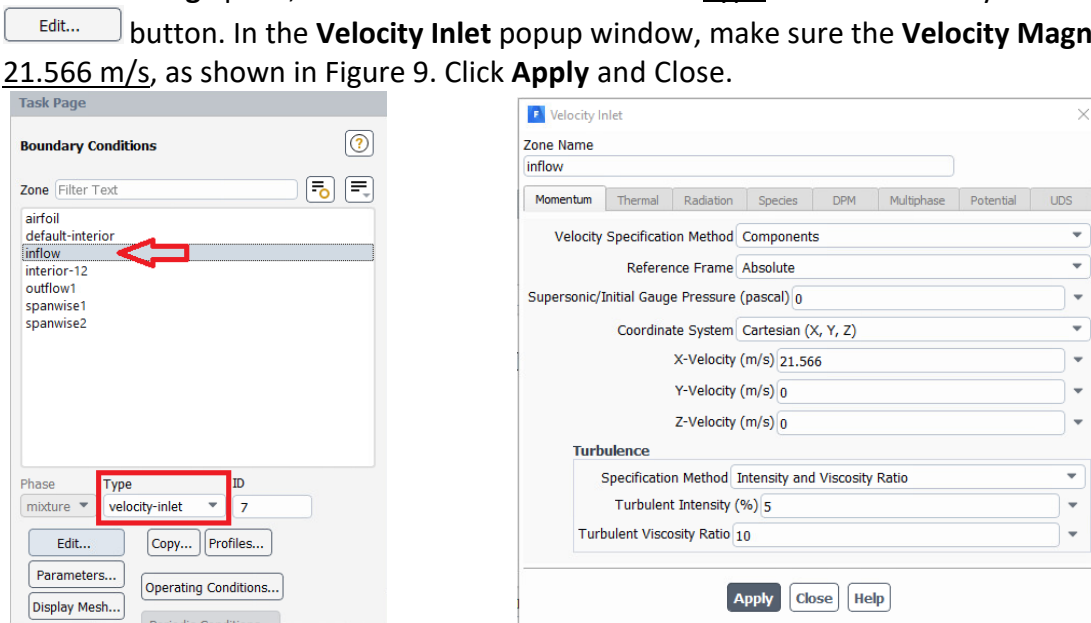

Figure 9. Setting the inlet boundary condition.
2.9.2. In the **Task Page** pane, click on **inflow**. Make sure the Type is set to “velocity-inlet”. Click on the **Edit...** button. In the **Velocity Inlet** popup window, make sure the **Velocity Magnitude** set to 21.566 m/s, as shown in Figure 9. Click **Apply** and Close.